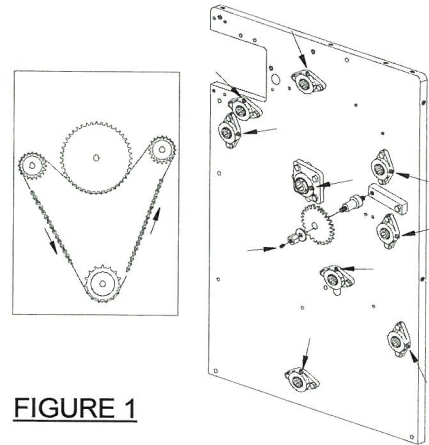

FIGURE 1
LOCATE THE RIGHT SIDE OF THE MACHINE (FIGURE 1). THIS SIDE WILL HAVE THE SINGLE DRIVE CHAIN. YOU WILL NOTICE THE NINE (9) BEARING FLANGES, EIGHT (8) TWO (2) HOLE FLANGES AND ONE (1) FOUR (4) HOLE FLANGE. WITH A GREASE GUN, APPLY A SMALL AMOUNT OF GREASE TO THE FITTINGS. YOU WILL ALSO NOTICE A GREASE FITTING COMING OFF (PART NO. K203RS2A) NEAR THE MIDDLE OF THIS PANEL. THIS MAKES A TOTAL OF TEN (10) GREASE FITTINGS FOR THE RIGHT SIDE.